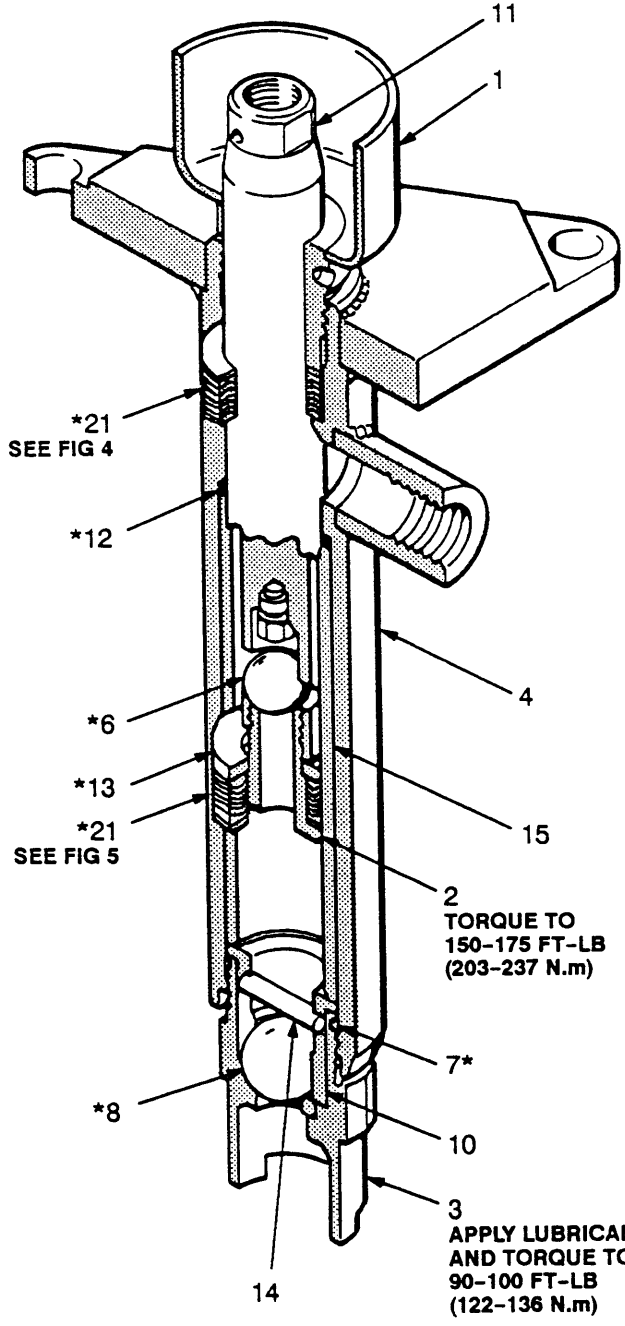

Fig. 3
2. Screw the intake valve housing (3) out of the pump outlet housing (4). Note which set of holes the ball stop pin (14) is in. Remove the pin, ball guide (10), ball (8), and o-ring (7) from the intake valve housing (3). See Fig. 3. Check that the ball seat of the intake valve housing is not chipped or nicked.
3. Unscrew the wet-cup/packing nut (1) and push the displacement rod (11) down and out of the outlet housing (4).
4. Place the flats of the piston (2) in a vise. Using a wrench on the flats of the displacement rod (11), screw the rod off the piston.
5. Remove the ball (6), retainer (13), and gland/packing stack (21) from the piston. Check that the ball seat of the piston is not chipped or nicked.
6. Remove the gland/packing stack (21) from the throat.
7. Clean all parts thoroughly, and check for wear, scratches or other damage. Scoring or irregular surfaces on the displacement rod (11) or polished inner wall of the sleeve (15) can cause premature packing wear and leaking. Check these parts by rubbing a finger on the surfaces or by holding the parts up to the light at an angle. If either is worn or scratched, replace it.
**NOTE:** If the sleeve (15) needs replacement and is hard to remove, contact your nearest Graco Factory Branch or Graco Technical Service (see back page).
4. Screw the piston (2) into the displacement rod (11). Torque to 150–175 ft-lb (203–237 N.m). See Fig. 3.
5. Lubricate the displacement rod (11), and insert it in the bottom of the outlet housing (4). Carefully push it up through the throat packings.
6. Install the ball (8\*), ball guide (10), and ball stop pin (14) in the intake valve housing (3). Be sure the pin is in the desired set of holes, as was noted in step 2 under **Disassembly**. (To change the pin location, see **Check Valve Adjustment**, below.) Install the o-ring (7\*) on the intake valve housing (3). Apply thread lubricant and screw the assembly into the outlet housing (4). Torque to 90–100 ft-lb (122–136 N.m).